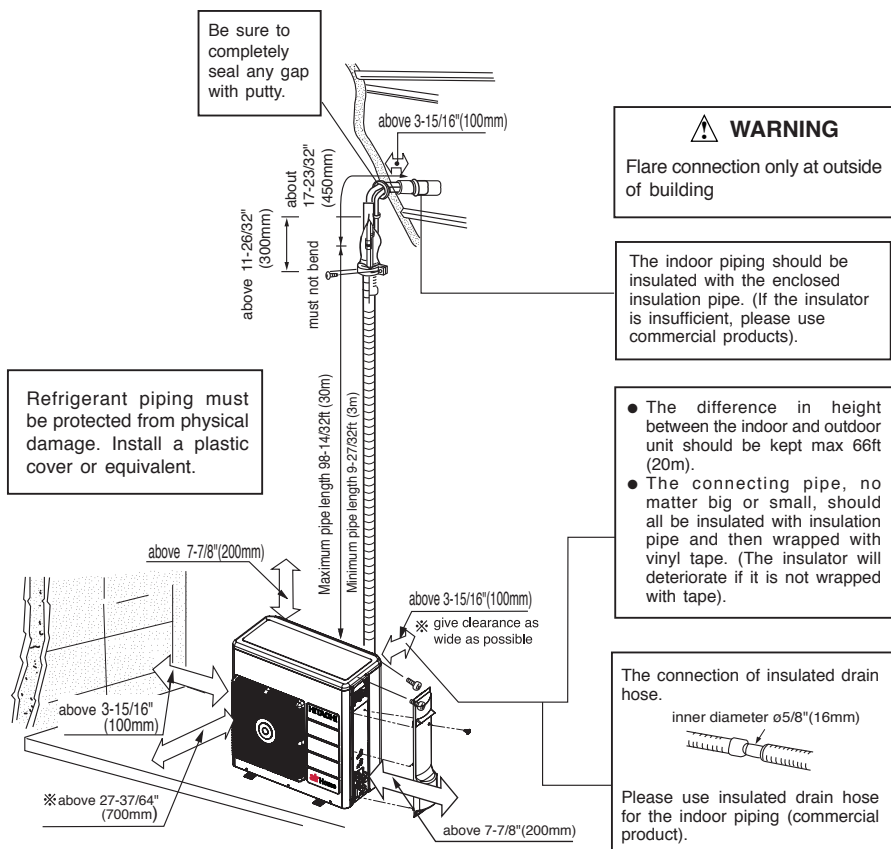

Figure 1
- The clearances of the unit from top, left, right and front are specified in Figure 1. At least 3 of the above sides must be open air.